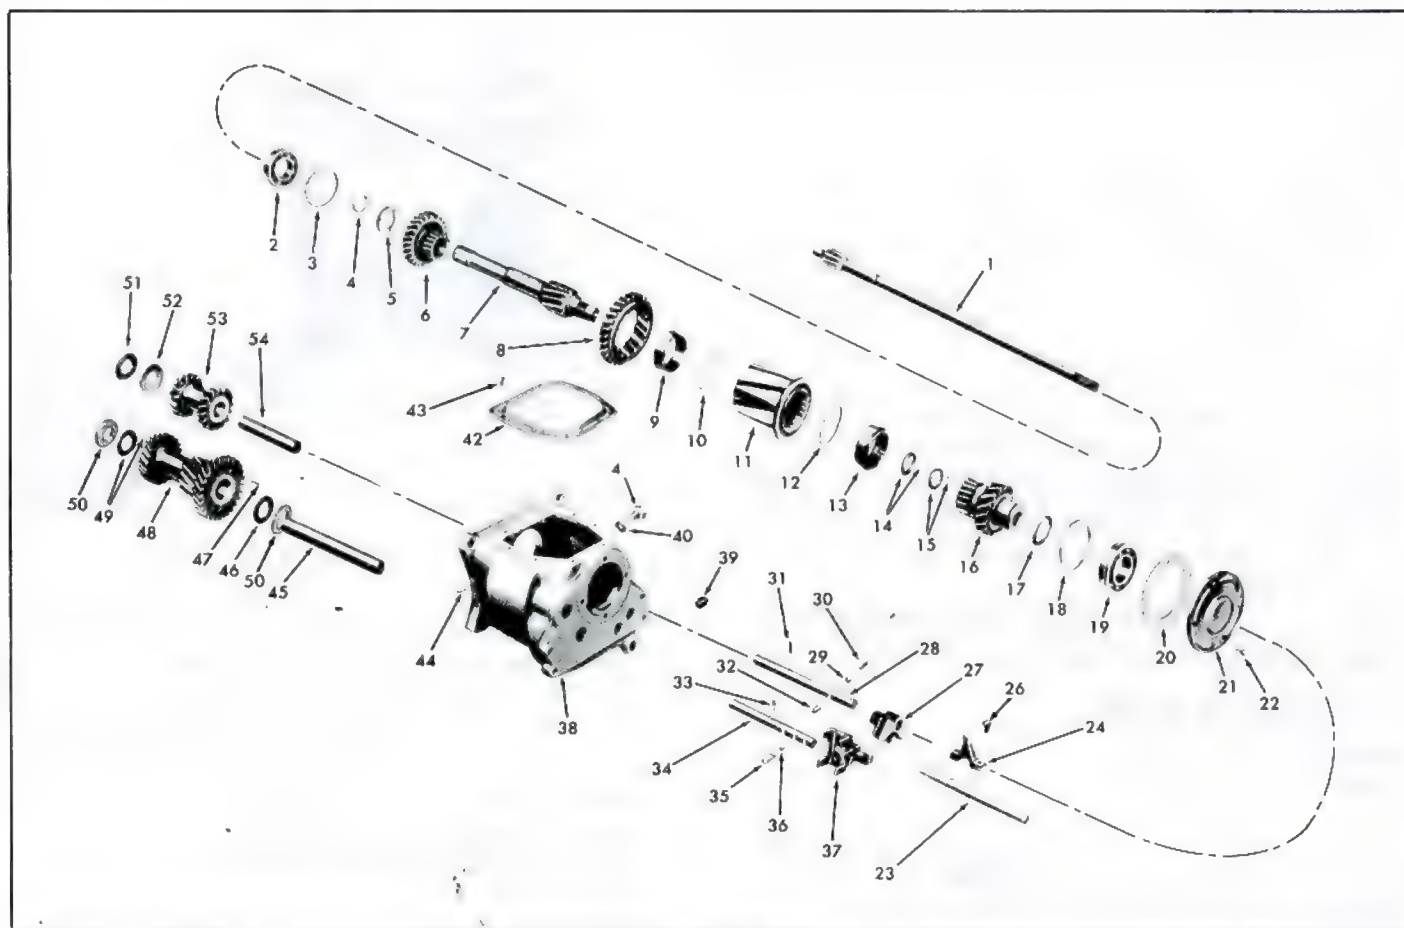

Fig. 7A-13—Manual Transmission—Exploded View
3. Install detent spring and ball (fig. 7A-17) in that order in detent cavity. Tap ball and spring to insure the spring is resting on bottom of cavity.